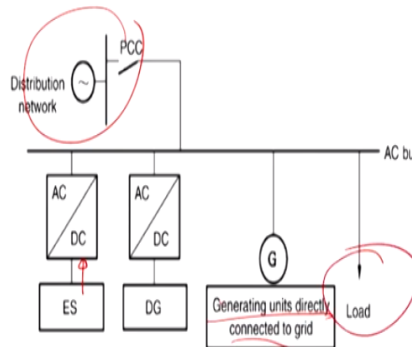

Fig.3:Structure of AC microgrid
- Fig.3: shows the structure of an AC microgrid, in which DG and ES are connected to the AC bus via inverter.